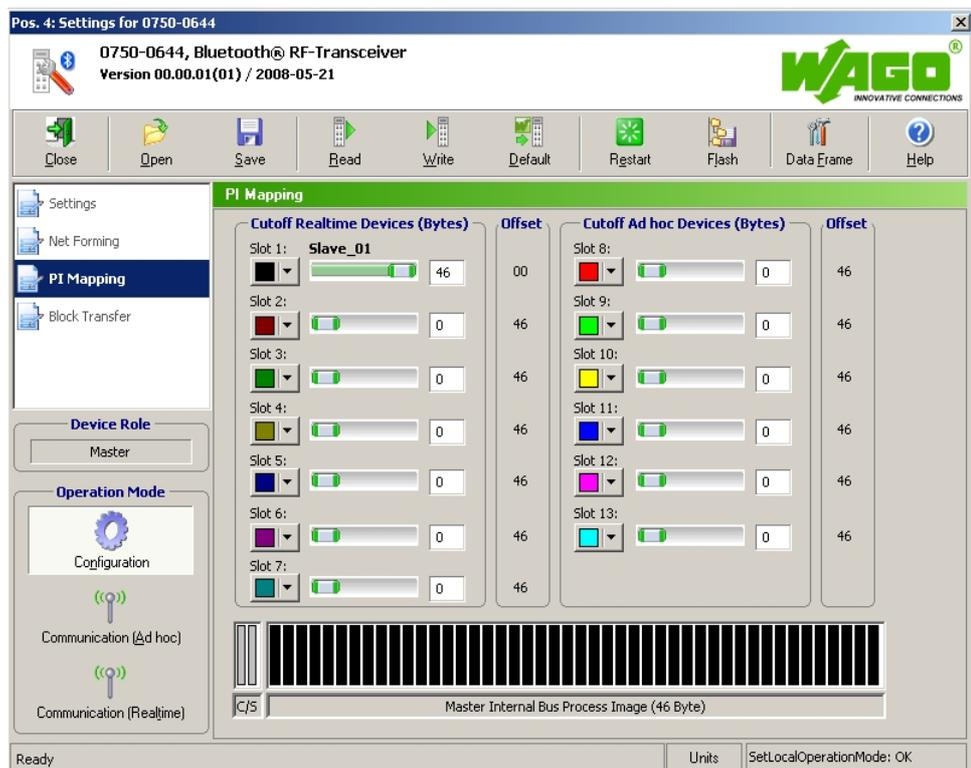

Figure 8: PI mapping
Start with point 3 while the *Bluetooth*® configuration window (see Figure 8) is still open.
4. Move the ruler for the first slave to the right so that the first slave is assigned the maximum possible number of bytes in the master's process image (see Figure 8).